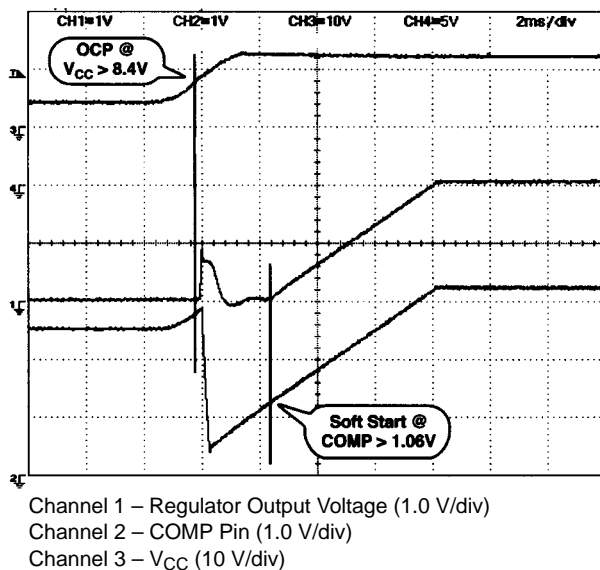

Figure 12. Startup with COMP Pre-Charged to 2.0 V (2.0 ms/div)
If the voltage across the Current Sense resistor generates a voltage difference between the V_{FB} and V_{OUT} pins that exceeds the OVC Comparator Offset Voltage (86 mV typical), the Fault latch is set. This causes the COMP pin to be quickly discharged, turning off GATE(H) and the upper NFET since the voltage on the COMP pin is now less than the 1.1 V PWM comparator offset. The Fault latch is reset when the voltage on the COMP decreases below the discharge threshold voltage (0.25 V typical). The COMP capacitor will again begin to charge, and when it exceeds the 1.1 V PWM comparator offset, the regulator output will Soft Start normally (see Figure 12).